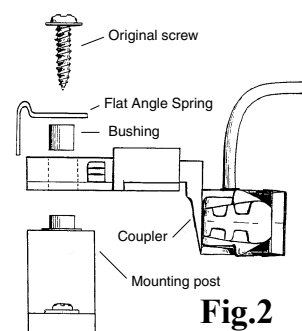

Fig.2
3. Place the new coupler gear box on loco mounting bracket as shown in fig. 2. After installing the bushing in the hole of the gear box shank, position the flat angle spring as shown and secure with the original screw making sure gear box is straight. Test centering action of gear box. If more spring tension is needed you can push forward on the spring while tightening the screw. The spring can also be bent slightly if required.